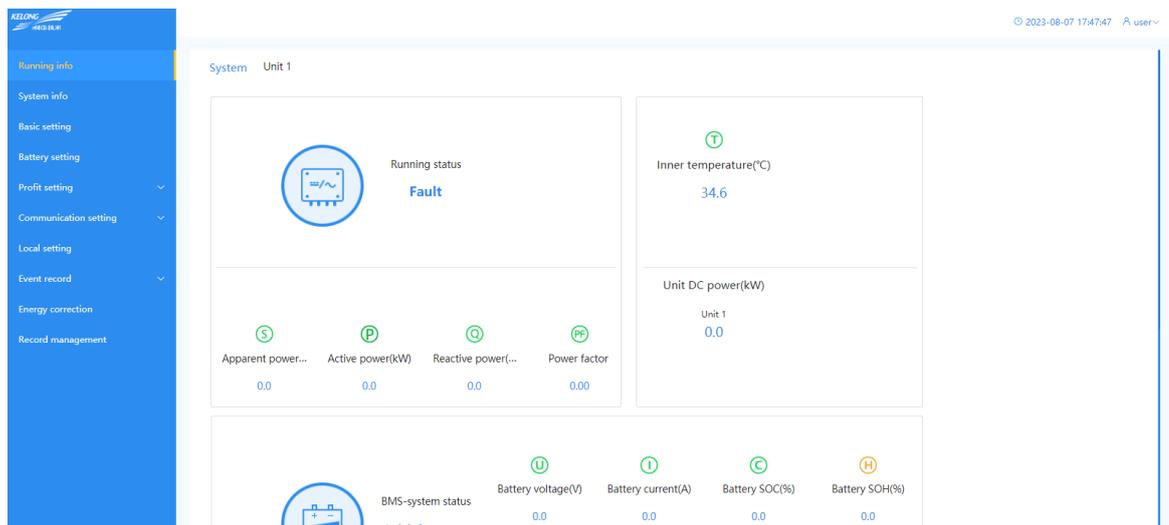

Figure4-4 Running info page
Step 2 Enter user name and password, and then click Login button, the page will enter the system info page of running info, as shown in Figure4-4.